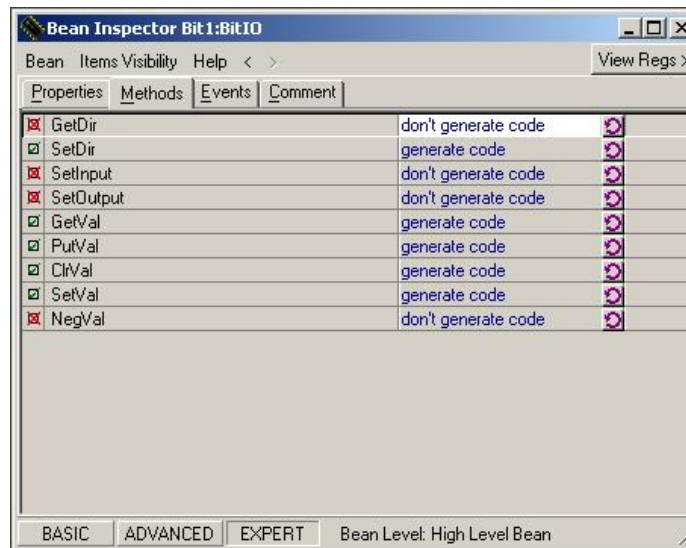

Figure 20. Bean Inspector window - Methods for BitIO Bean
4. If needed select which Methods to create by selecting the Methods tab in the Bean Inspector window (Figure 20). Click the round arrow button(🔄). For this bean, the methods that should be used are: